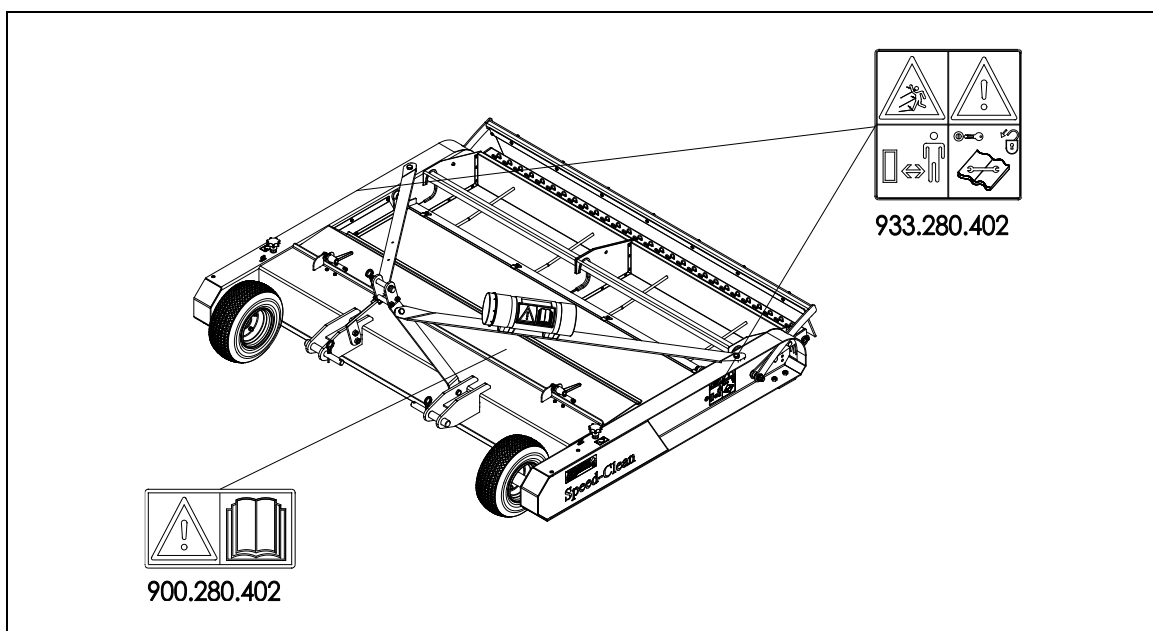

Fig. 5
On the sides of the Speed-Clean safety stickers (Fig. 5) are applied with an identical meaning. These safety stickers must be properly visible and legible at all times, and be replaced when damaged.
- (7) Position of safety stickers. (Fig. 5)